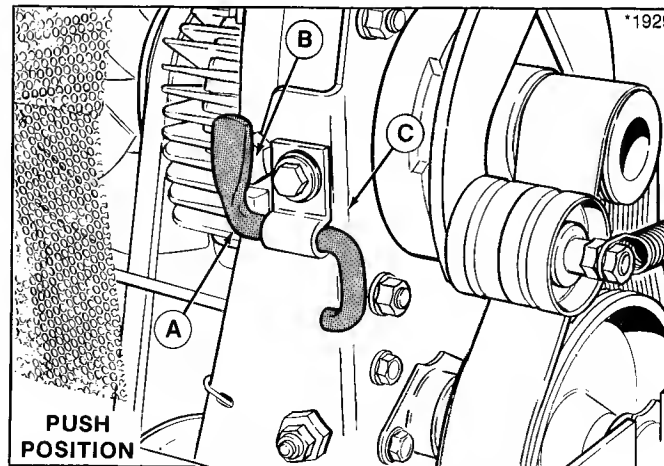
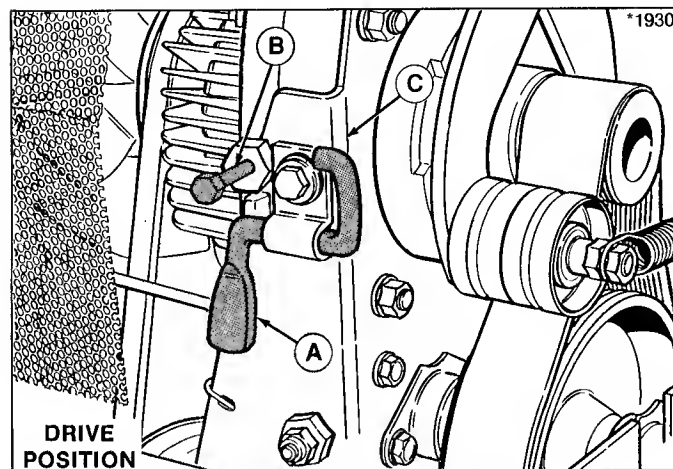

Figure 7. Hydro Release Valve Engaged
Figure 8. Hydro Release Valve Disengaged
To push the rider by hand, the hydro release valve must be engaged so that plunger on front of transmission (figure 7) is depressed. To drive the rider, the tow valve must be disengaged (figure 8).
1. To disengage, grasp lever (A, figure 7), pull toward left so lower section clears pump bracket (C). Flip down, then push toward right, so it is secured into position shown in figure 8.
2. To engage, grasp the lever (A, figure 8), pull toward left to clear pump bracket (C), and then flip up so it depresses plunger. Push toward right so it locks into position shown in figure 7.